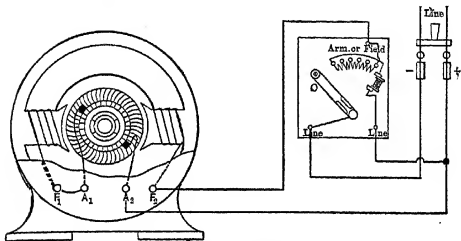

FIG. 226. The connections of a starting box for a series motor: "No-voltage" release.
**115. Series Motor. Starting Box.** The starting box of a series motor is always a 3-point box, but still always has a "no-voltage" release as is seen by Fig. 226.